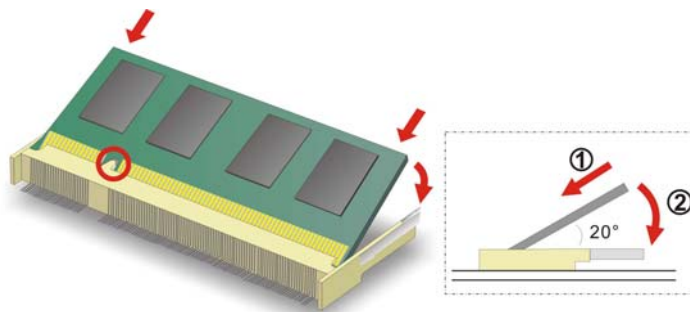

Figure 4-1: SO-DIMM Installation
To install an SO-DIMM, please follow the steps below and refer to Figure 4-1.
Step 3: Insert the **SO-DIMM**. Push the memory in at a 20° angle. (See Figure 4-1)
Step 4: Seat the SO-DIMM. Gently push downwards and the arms clip into place. (See Figure 4-1)